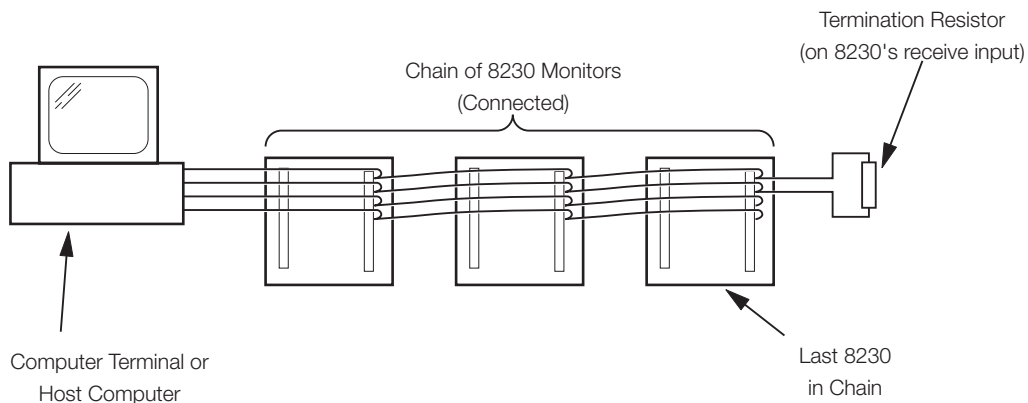

Fig. 4.1 Schematic Diagram
4.1 Serial Connections – Figs. 4.1 and 4.2
The transmitters must be connected in parallel as shown in the schematic diagram – Fig. 4.1. The RS485 standard quotes connection of maximum thirty two slaves (8230 Monitors) to any single driver (computer terminal or host computer); the RS422 standard quotes connection of up to ten slaves. However, these numbers can be increased if the driver's serial port permits.
For long transmission lines, termination resistors are required on the last 8230 Monitor in the chain and at the host computer/ computer terminal. Under normal operating conditions the resistors are required at the last 8230 receive inputs only – see Fig. 4.1. The transmitter's resistors are selected using plug-in links – see Fig. 5.1.